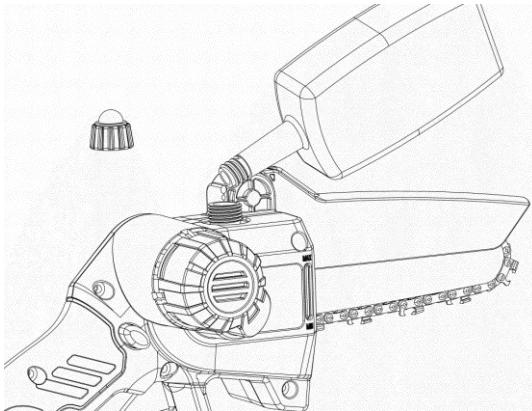

Fig. 4a
- Remove the oil reservoir cap (2) and fill with chain lubricating oil to the max level before the tool to be operational. See Fig. 4a.